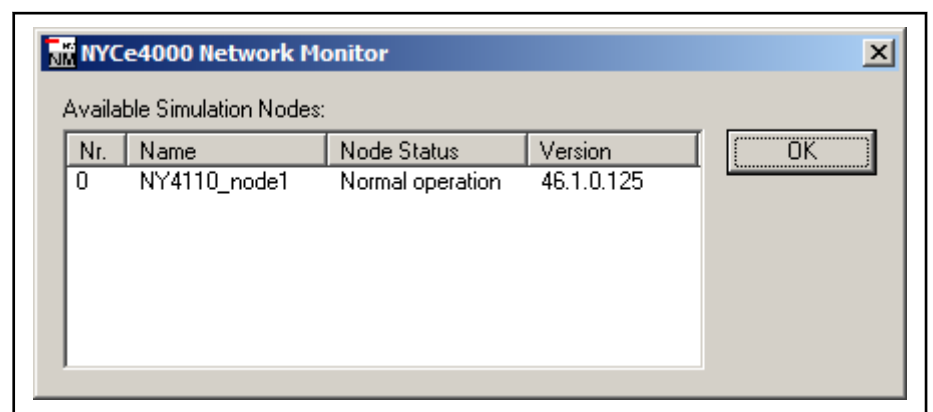

Fig. 10-2: The NYCeNetMonitor window
- NYCeNetMonitor has a small window which only displays the status of the nodes in the selected network, nothing else. For example, if you have multiple nodes you can directly see and compare the firmware versions of all the nodes, see fig. 10-2 "The NYCeNetMonitor window" on page 229.